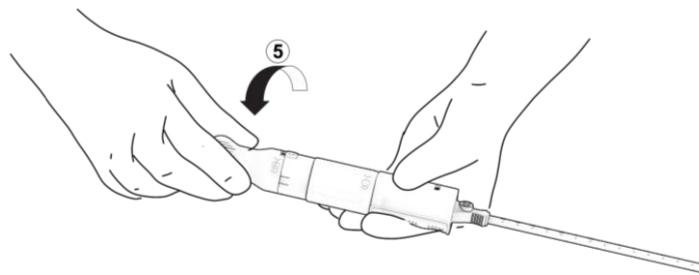

**Figure 15. Release cam lock.**
- a. Locate the cam lock (marked '4') and fully depress this green button. Figure 15. Ensure it is fully depressed before proceeding to step 5.